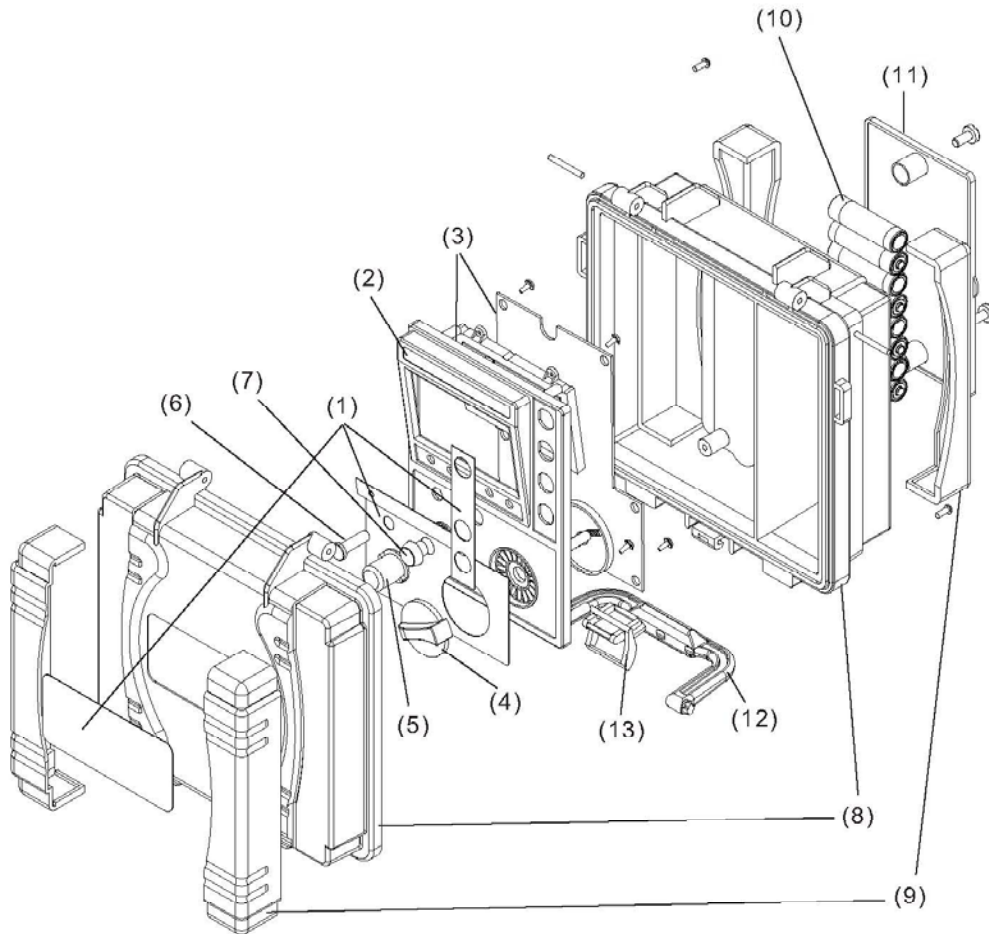

Figure 3
**Disassembly Instructions and Setup for Calibration (refer to Figure 3)**